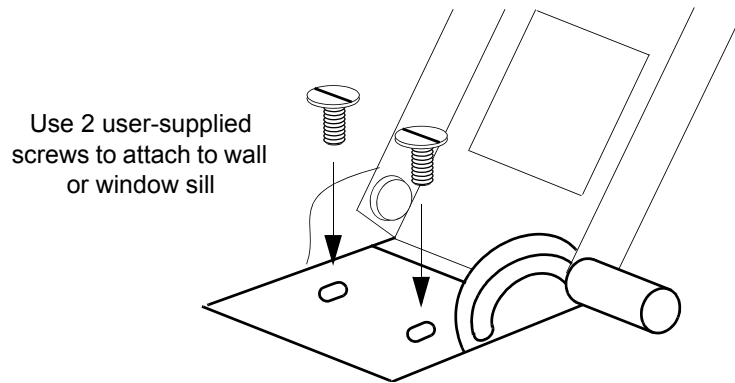

Figure 3-7. Attaching the Mechanical Window Antenna
1. At the window chosen in Chapter 2, Engineering and Ordering, attach the base of the mechanical window antenna to the chosen location (sill, wall, etc.) using user-supplied screws (Figure 3-7).